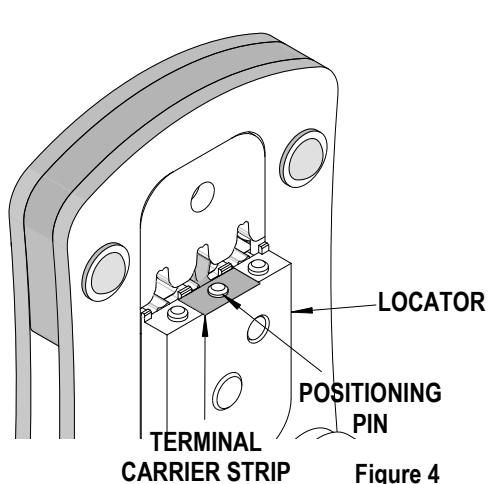

Figure 4
2. Place the properly stripped wire into the correct profile and above the terminal. Pull the wire up; make sure all the wire strands are captured inside the insulation stop/slot. Push the wire into the tool until the end of the insulation contacts the insulation stop. See Figures 4 and 5.